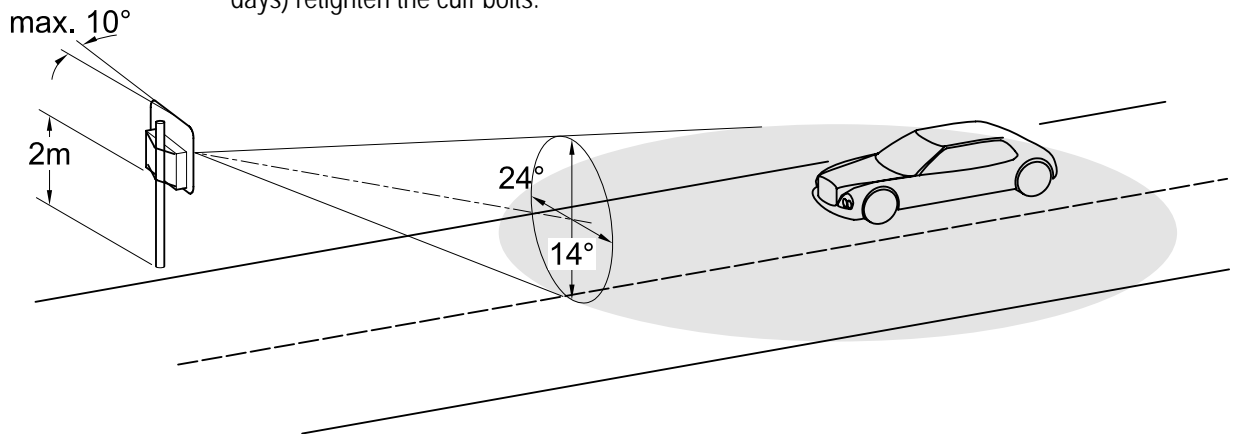

Figure 7-5 Directing the DFS 600 beside a road
- (7) Position the DFS 600 vertically in the middle and swivel it horizontally until the cone of the radar beam is located above the lane to be monitored. See Figure 7-5. The maximum degree of horizontal swivel should be less than 10°.
- (8) Tighten the cuff bolts. If necessary, secure the DFS 600 against slipping with a clamp on the tubular fixing or a bolt through it. In the event of longer installation time (after about 2 days) retighten the cuff bolts.